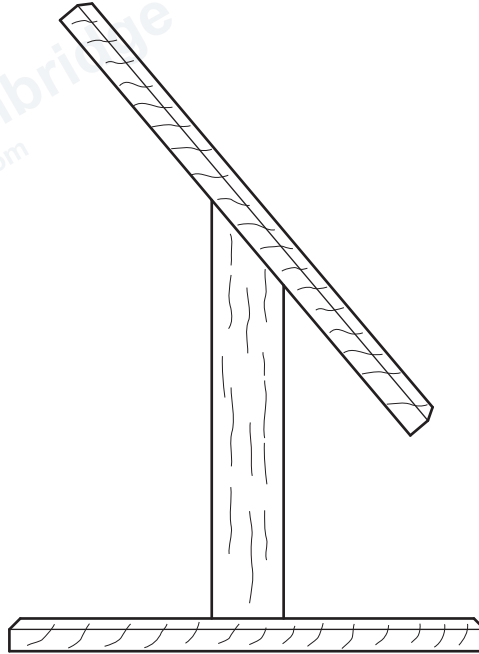

Figure 11.5
- (f) Figure 11.5 shows the column that will be glued to the platform using a dowel joint and to the base using a twin mortise and tenon joint.
- (i) Add sketches and notes to Figure 11.5 to show how the joints could be clamped together while the adhesive sets. [3]